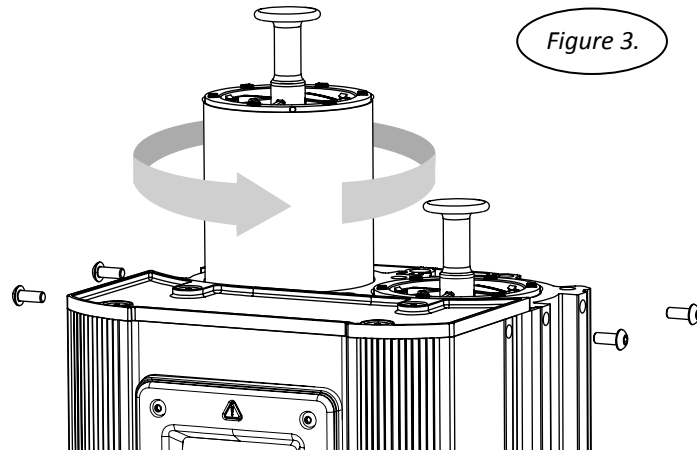

Figure 3.
28. Insert the 2x new desiccant cartridges and rotate until they sit correctly into place . Then press down until they stop and the cartridge is below the top surface of the dryer column (refer to figure 3).